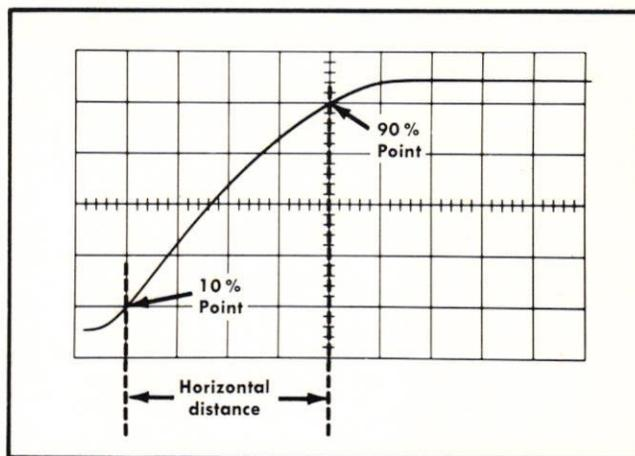

Fig. 2-16. Measuring risetime.
7. Adjust the HORIZONTAL POSITION control to move the 10% point of the waveform to the second vertical line of the graticule. For example, with a five division display as shown in Fig. 2-16, the 10% point is 0.5 division up from the start of the rising portion.
EXAMPLE: Assume that the horizontal distance between the 10% and 90% points is four divisions (see Fig. 2-16) and the TIME/DIV switch is set to  $.5 \mu\text{SEC}$  with the MAG switch pulled out.